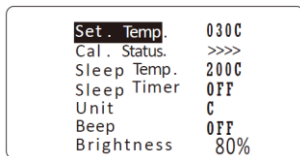

Fig.6
6.3.2. When Cal. status display “>>>” (see Fig 6.), it means “Real Temp.” has calibrated and increase temperature.